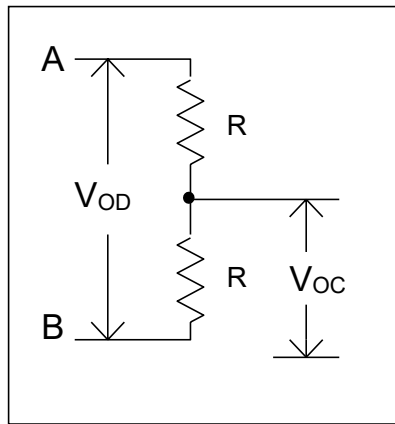

Figure 1 Driver DC Test
- Test circuit diagrams see Figure 1